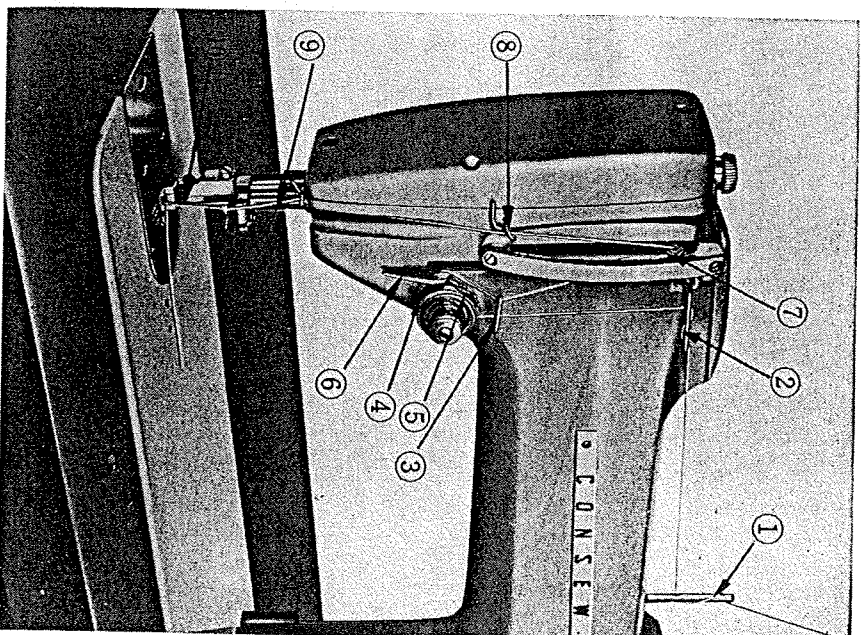

Fig. 4
Turn handwheel toward you until needle (10) reaches its highest point and take-up lever (7) is near the end of its upward travel, as shown on Fig. 4. Lead thread from hole of spool pin (1) through three holes in thread guide (2), then downward through guard (3) and between and around tension discs (4) from right to left. Upward into thread take-up spring (5) and down under slack thread regulator (6), up and through guard (3) into eye of take-up lever (7) from right to left, down through thread guides (8 and 9) into thread guide (10) and from left to right through the eye of the needle. Pull two to three inches of thread through the eye of the needle.